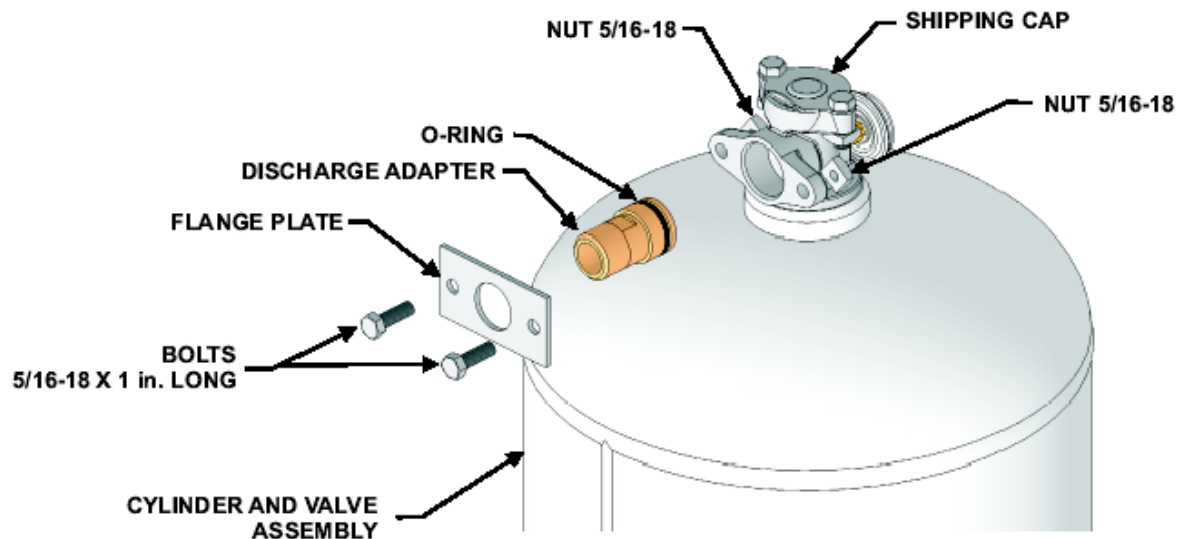

Figure 4-5. Installing the Discharge Adapter Kit, P/N 844908
3. Insert the Discharge Adapter through the hole in the flange plate (see Figure 4-5).